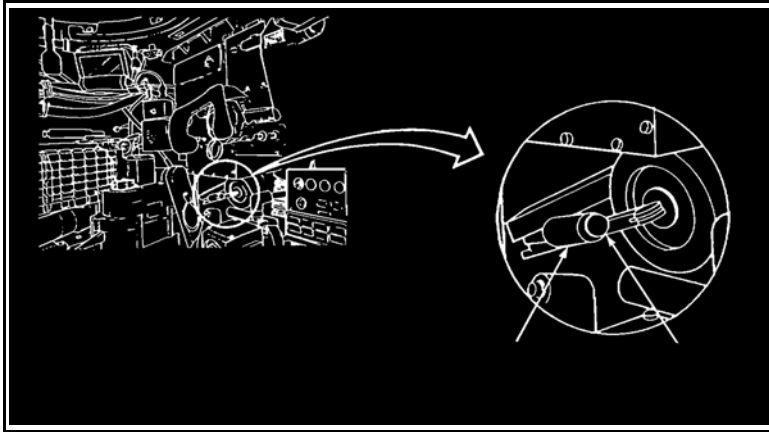

Figure 4. TOW elevation drive select lever.
- c. Move the TOW elevation drive select lever to MANUAL (Figure 4).
- (1) Press and hold the push button.
- (2) Move the TOW select lever to MANUAL and release the push button.